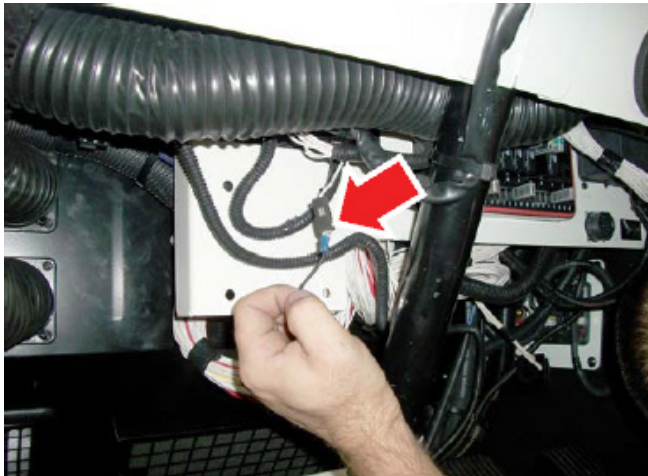

Figure 8
10. Locate the horn harness connector from the steering column and disconnect it by gently lifting the tab on the connector and pulling it apart (See Figure 8).